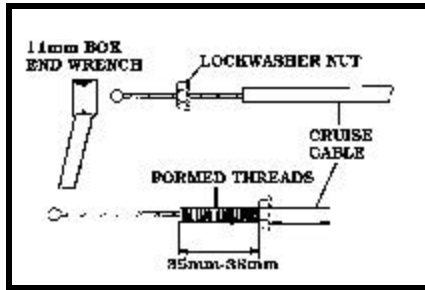

Figure 20
3. Before using the **LOCKWASHER NUT**, remove the Adjustable sleeve from the **CRUISE CABLE**. Then use the **LOCKWASHER NUT** to form threads on the end of the **CRUISE CABLE**. This is easily accomplished by placing the **LOCKWASHER NUT** on the end of the **CRUISE CABLE** with your fingers. Then use an **11mm** box end wrench and turn clockwise until the desired amount of threads have been formed **Figure 20**.